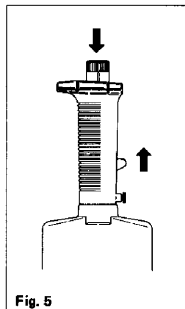

Fig. 5
4. Place the syringe nozzle close to and directly above the microtiter plate wells. Depress the thumb knob to its full stop position. The preselected volume of the liquid will then be delivered into the wells. (Fig. 5)